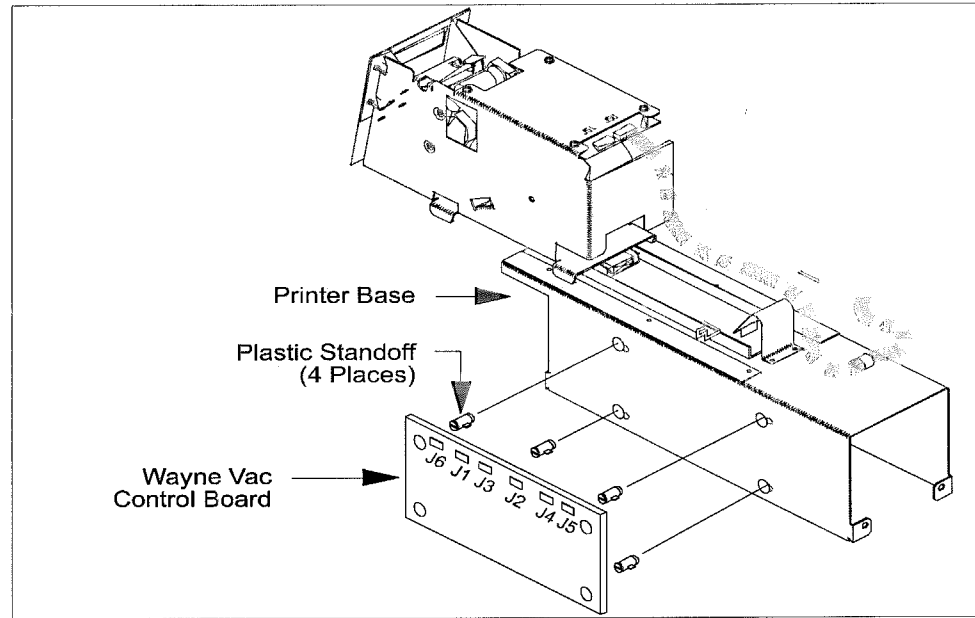

Figure 2-4 Mounting Wayne Vac Control Board To Printer Base
9. Install the Wayne Vac Control board to the printer base using the plastic standoffs removed in step 7. When installing the board to the printer base, make sure the board connectors (J1 through J6) are located at the top. Refer to Figure 2-4.